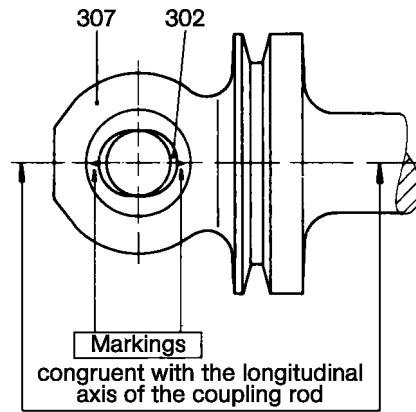

Figure 10: Pressing-in of the joint bush
- By means of the hexagon screws (139) fasten bearing cover (131) with gasket (132) to the bearing bracket (110).
- Insert key (101) in the driving shaft (118) and secure with two center punch blows at the front side.
- By means of a brass mandrel, drive half of the bushes for joint bolt (303) into the rotor (401).
- Press joint bush (302) into the joint shaft (307) so that the longitudinal axis of the oval bore hole (marked by two notches) coincides with the longitudinal axis of the joint shaft and the joint bush equally protrudes from both sides of the joint shaft (please refer to Figure 10 below).